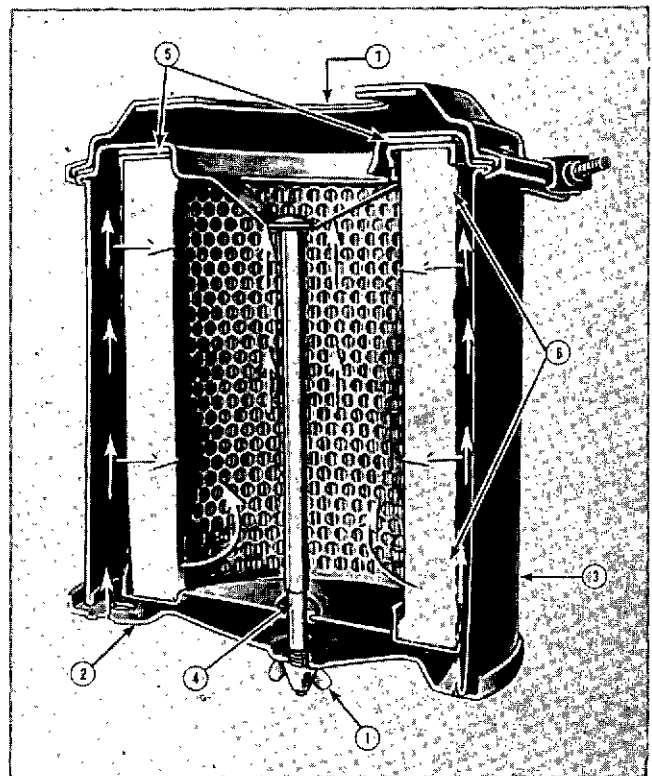

Fig. 10-1-3, N11003. Air cleaner—dry type
1. Loosen wing nut (1, Fig. 10-1-3) securing bottom cover (2) to cleaner housing (3). Remove cover.
2. Pull element (6) down from center bolt (4).
3. Remove gasket (5) from outlet end (7) of housing.
1. Install gasket (5, Fig. 10-1-3) at outlet end (7) of cleaner housing (3).